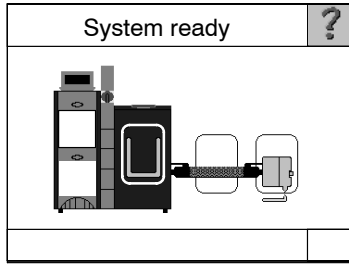

Fig. 4-6
6. Wait until the system is ready for operation (Fig. 4-6).